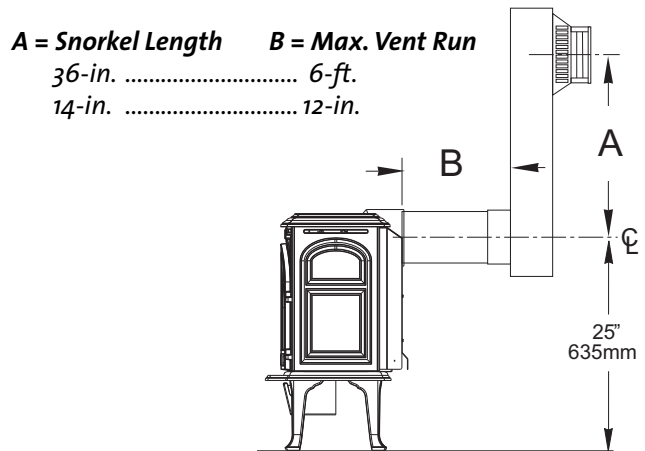

Figure 19. Max. horizontal vent to Snorkel terminations.
- **14" Snorkel: ONLY approved for maximum 12" horizontal termination with no elbow. See fig. 19.**